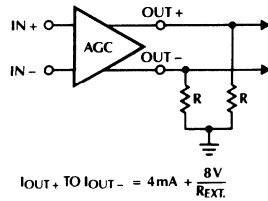

Figure 4. Modification of AGC Amplifier Output to Drive Low Impedance Filters
**Note 3:** AGC amplifier output current may be increased as in Figure 4.